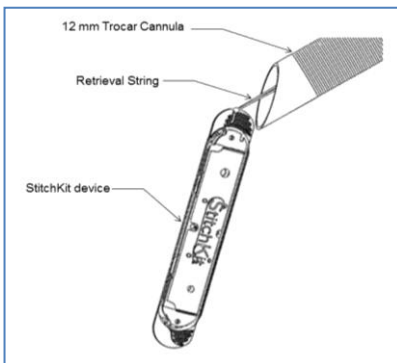

Figure 7 - Pulling out device through trocar using retrieval string
- 7.3. The device can then be pulled out from the body through the trocar. See Figure 7.